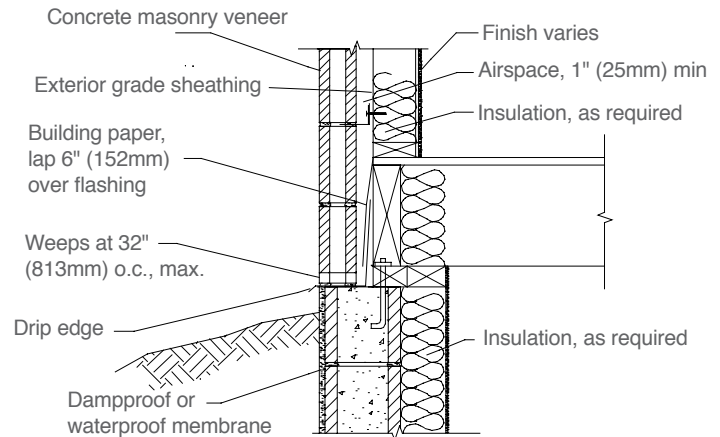
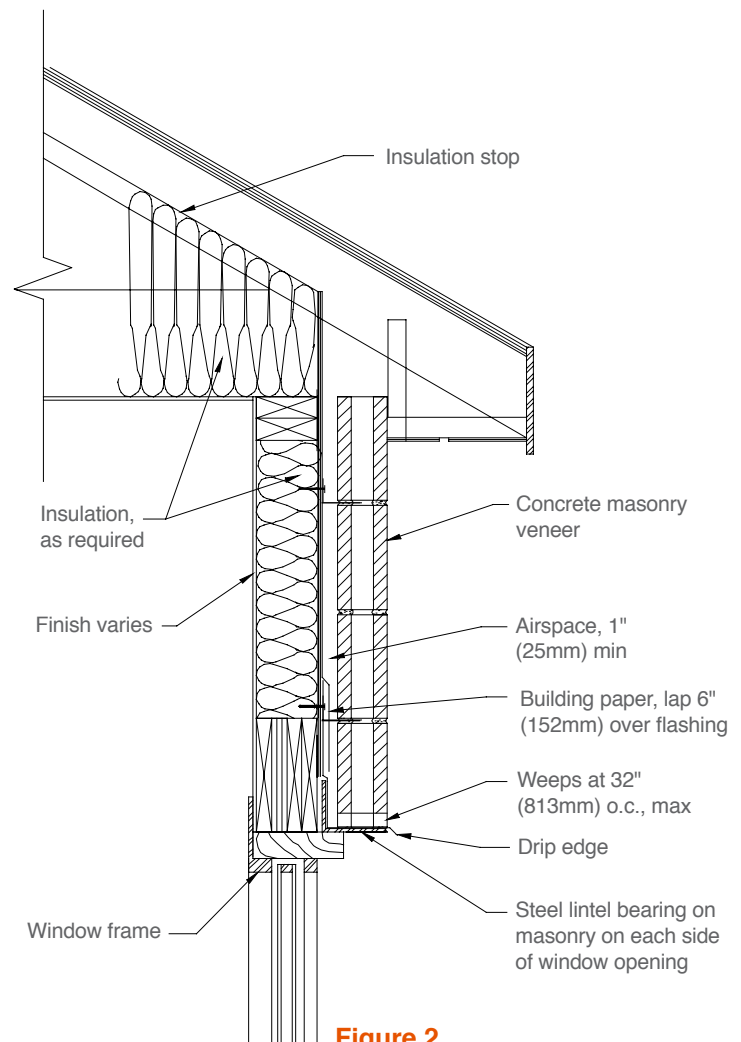

Figure 1
Figure 2
For cavity walls, as illustrated in Figure 1, the cavity ranges from a minimum of 1 in. (25 mm) to a maximum of 4 1/2 in. (114 mm) wide with a minimum of a 1 in. (25 mm) clear airspace if insulation board is placed in the cavity. Cavities wider than 4 1/2 in. (114 mm) are permitted only if a detailed analysis is performed on the wall ties per the Building Code Requirements of Masonry Structures (ref. 1). The 1 in. (25 mm) clear airspace works only if the mason takes precautions to insure that mortar will not bridge the airspace. Such precautions would include beveling the mortar bed away from the cavity or drawing a piece of wood up the cavity to collect mortar droppings. If precautions are not taken, it is suggested that a wider airspace be utilized, i.e. 1 1/2 to 2 in. (38 to 51 mm). Proprietary insulated drainage boards or mats are available that provide an unobstructed drainage path that eliminate the need for a clear airspace (ref. 4).
As shown in Figure 1, the flashing in a cavity wall at the intersection of the foundation should be sealed to the exterior faceshell of the backup wythe, project downward to the foundation surface, outward to the exterior face of the wall, and terminate with a sloped drip. Weep holes or open head joints should be located a maximum of 32 in. (813 mm) apart. Flashing at lintels and sills (shown in Figures 2 and 3, respectively) is very similar. Although not shown, vents can be installed in the vertical head joints at the top of masonry walls to provide natural convective air flow within the cavity to facilitate drying.